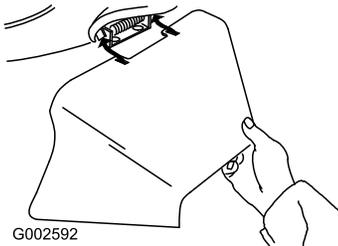

Figure 31
- Install the side discharge chute and close the door onto the chute (Figure 31).